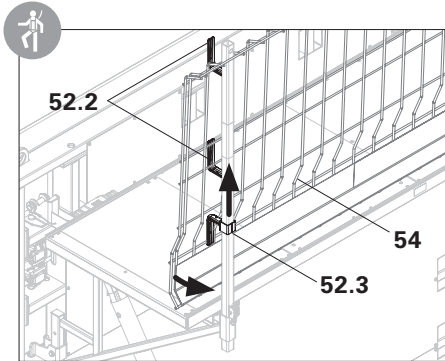

Fig. B5.01
1. Hook Side Mesh Barriers PMB 120 (54) into the top L-bracket (52.2).
3. Lift the adjustable L-bracket (52.3). (Fig. B5.01)
4. Push Toeboard to the Guardrail Post Holder MXK. (Fig. B5.01)